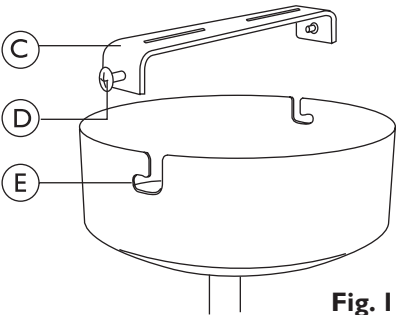

Fig. 1
Remove the fixing strap (C) from the fitting by removing side screws (D) and washers (see Figure 1). Using the
This product has “L” shaped fixing slots to allow easy fixing to the ceiling strap. Locate the “L” slots (E) around the small screws (D) on the ceiling strap (C) (see Figure 1). Rotate the ceiling cover to attach the product to the strap. Tighten the screws to secure. Take care not to trap any wiring.